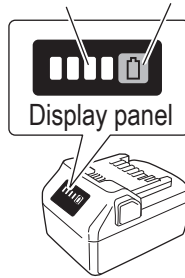

Fig. 16
- You can check the battery's remaining capacity by pressing the remaining battery indicator switch to light the indicator lamp. (**Fig. 16, Table 5**)